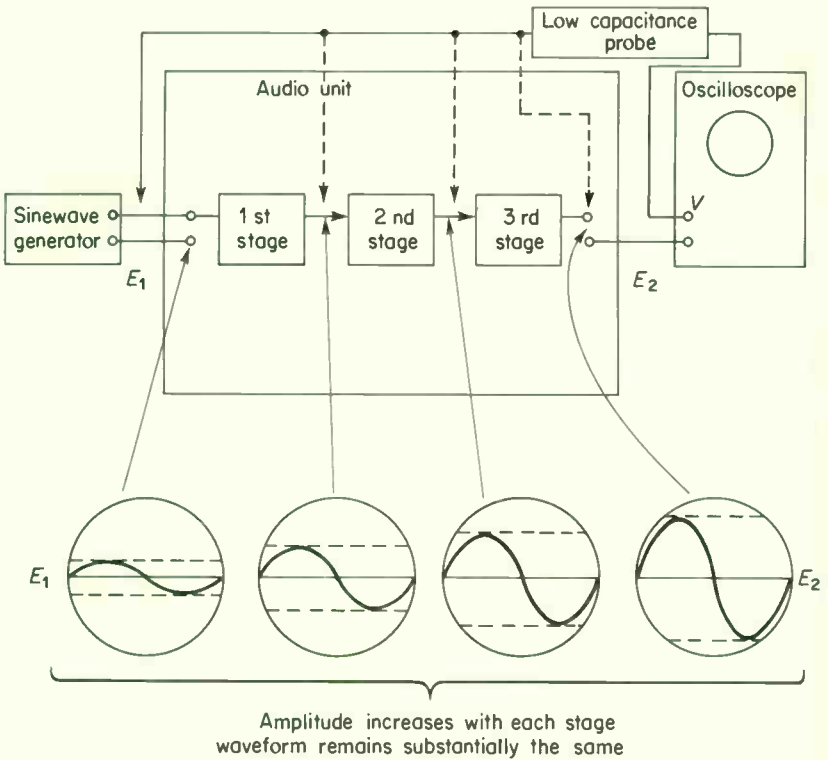

Fig. 10-1. Basic audio signal tracing with an oscilloscope.
1. Connect the equipment as shown in Fig. 10-1.